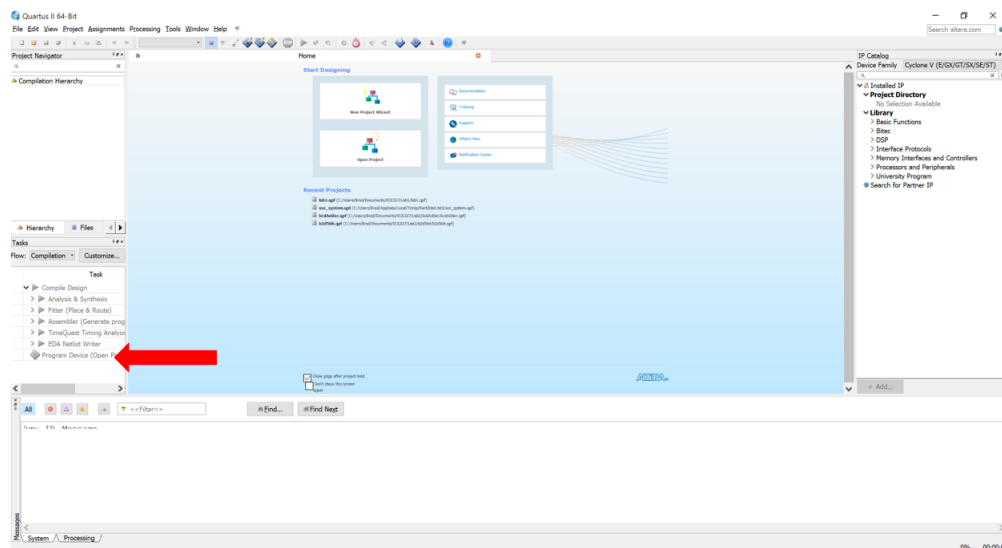
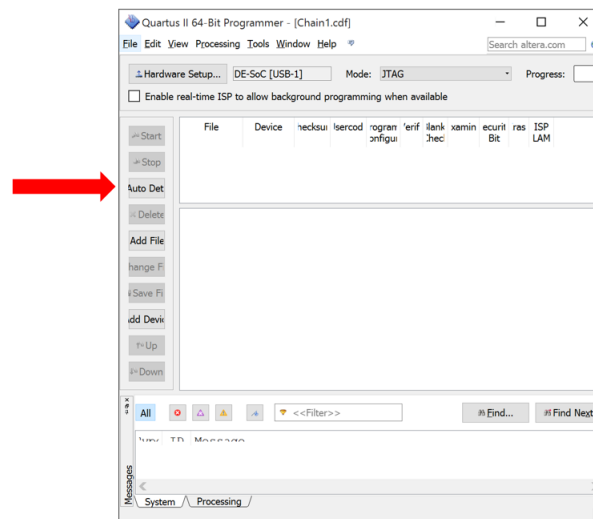

Figure 3: Double-click Program Device to open the Programmer
Figure 4: This is the programmer window. If you do not see the DE-SoC device as above, you will need to click "Hardware Setup"
3. When installed, you can open the programmer, Figure 3, in Quartus and it should automatically detect the device when opening. Otherwise click the “Hardware Setup” Button shown in Figure 4 and then